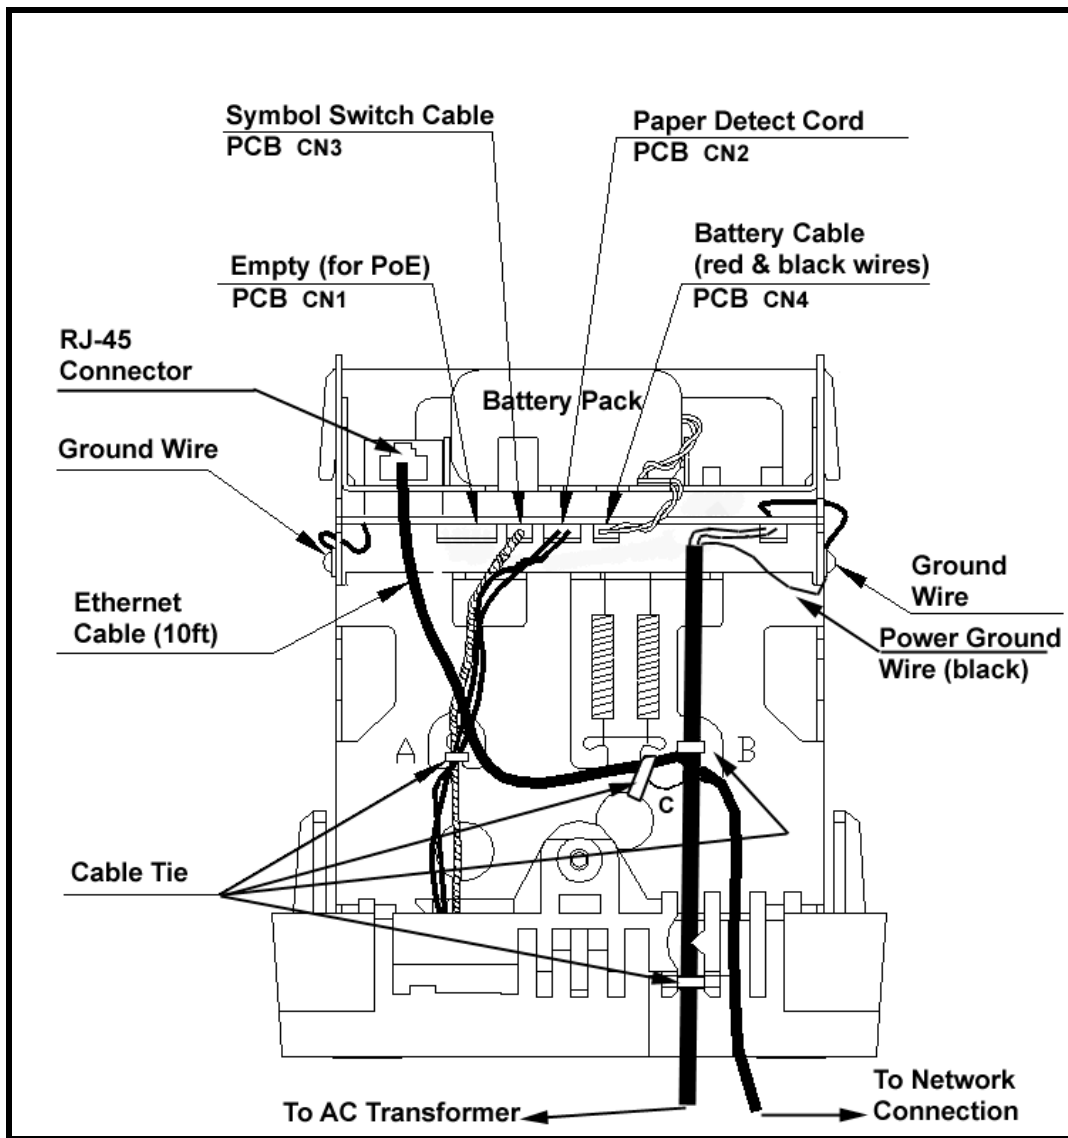

Figure 2-8: Rear View Showing Cable/Connector Location
Step 10. With the FPR battery pack in the holder alongside the network RJ-45 connector, plug in the FPR battery cable (the connector with the black and red wires) into the open brown connector (see *Figure 2-8*) located just under the battery pack on the PCB at CN4.